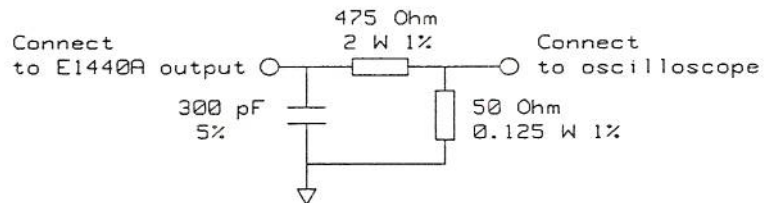

Figure C-11. 500Ω 300 pF load/Voltage divider
12. Connect the HP E1440A output to the analog oscilloscope via a 500Ω , 300pF load/voltage divider, as shown in Figure C-11.